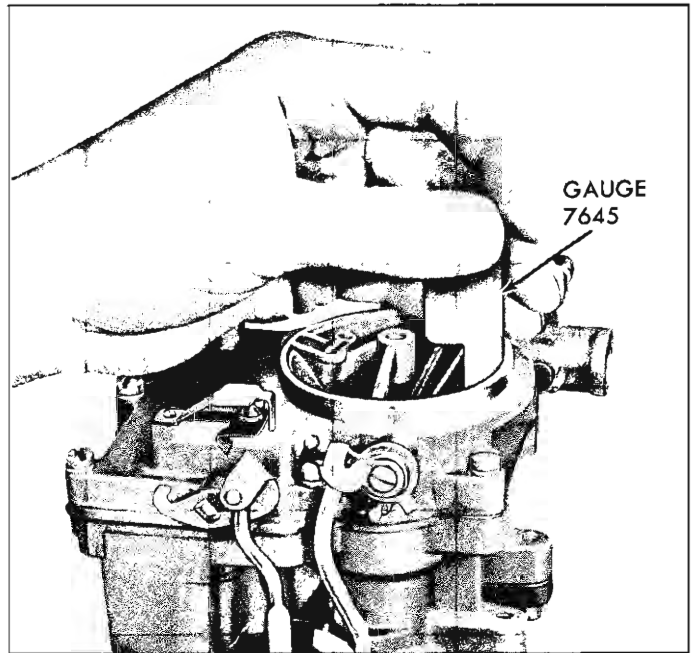

Fig. 16—Checking Unloader Adjustment
- **Unloader Adjustment**—Hold throttle wide open and slide large end of gauge X-7645 between upper edge of choke valve and carburetor bore (fig. 16). The gauge should slide freely between valve and bore. If adjustment is necessary, bend tang on throttle lever.